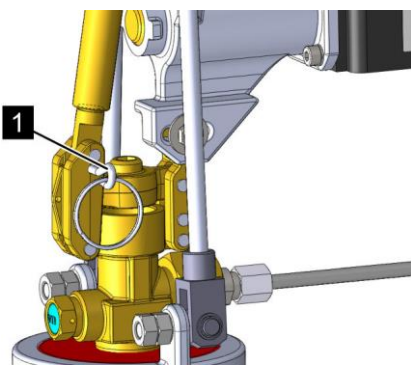

Fig. 142: Lock pin
3. ➔ Safeguard the valve of the pilot cylinder against faulty release, with a lock pin (Fig. 142/1).